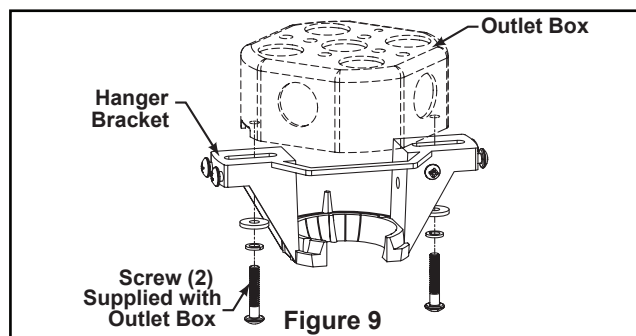

Figure 9
- ☐ 8. Push the screw cover trim ring up to conceal the screws, such that the mounting tabs seat into the dimpled grooves in the ceiling canopy midway between the screws. (Figure 9)
- ☐ 1. Securely attach the hanger bracket to the outlet box using the outlet box screws and washers supplied with the outlet box. (Figure 9)